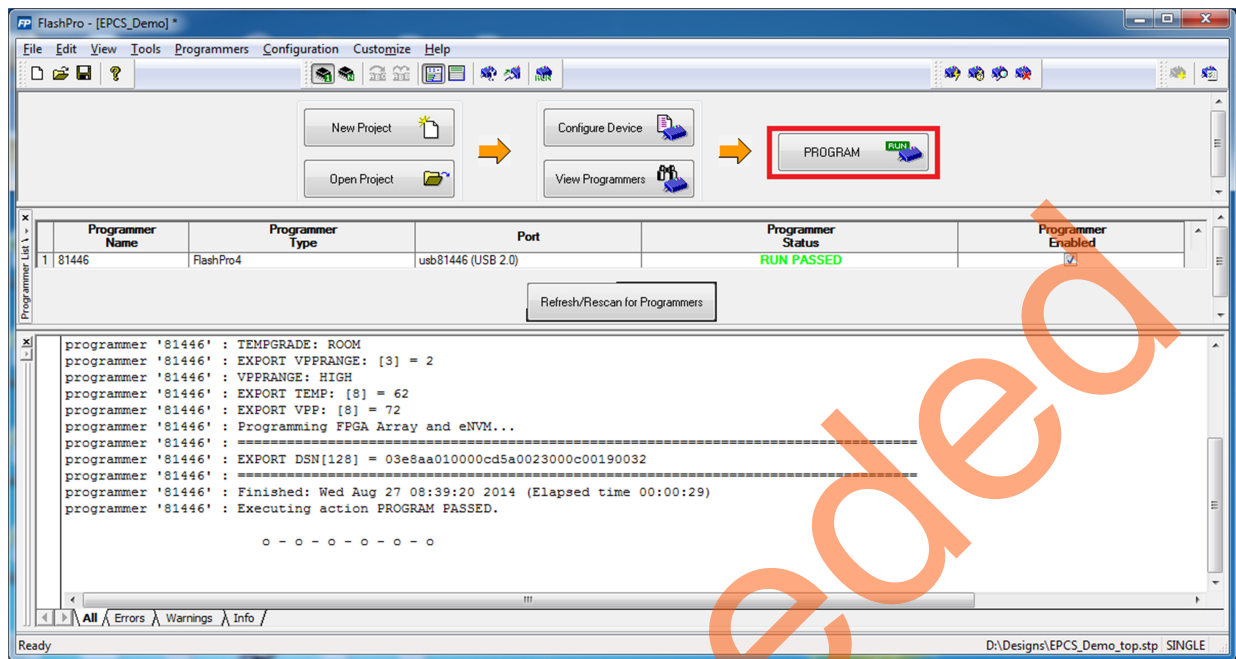

Figure 9 • Successful Programming Session
12. In FlashPro, click **PROGRAM** to program the device, as shown in Figure 9 on page 15.